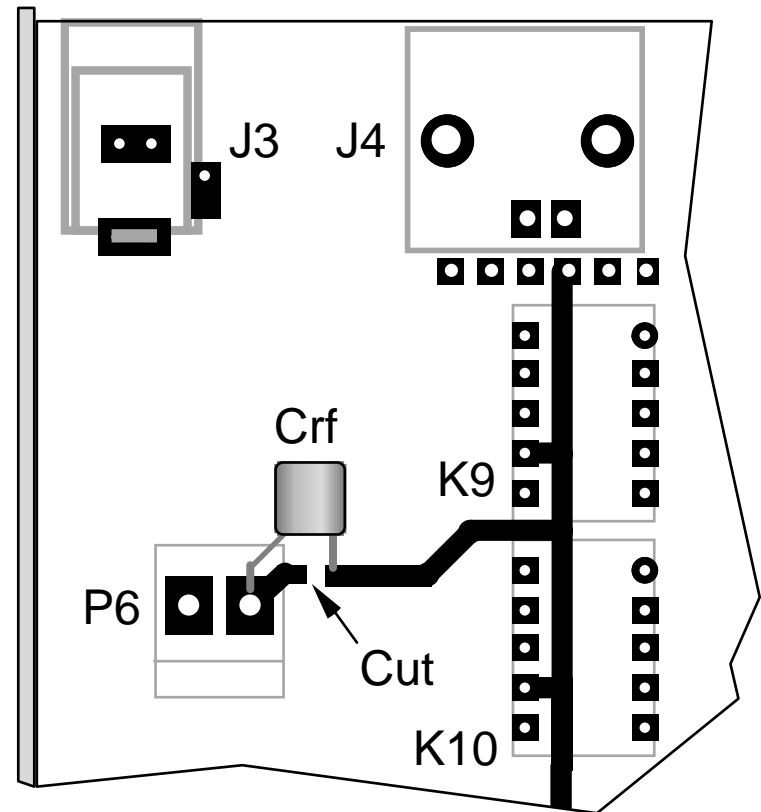

Figure 39
- If your K2 serial number is 2999 or lower:** Install the supplied DC blocking cap (**RF-Crf**, .047  $\mu$ F) on the bottom of the RF board at the location shown in Figure 39. The indicated trace must be fully cut; verify that it is open using your DMM.